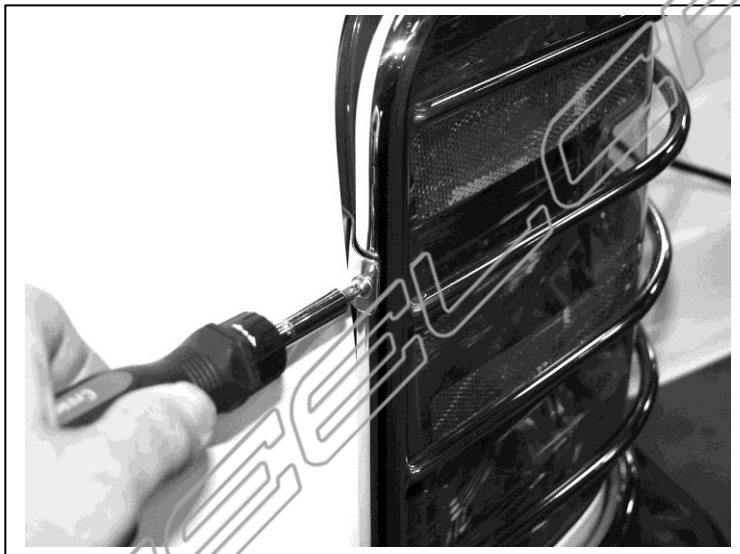

FIG. 4
- Install one of the furnished 4mm screws through the front bracket installed in step two and into the threaded insert in guard and tighten down. (Fig 4)